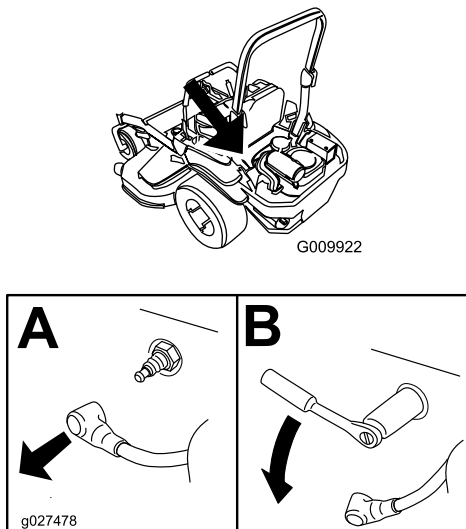

Figure 52
4. Locate and remove the spark plug(s) as shown in Figure 52.